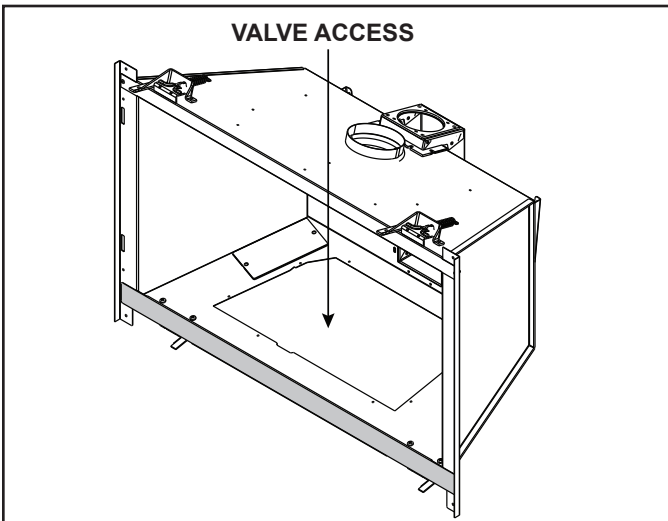

Figure 4 Valve Access
6. For full valve access see Figure 4.